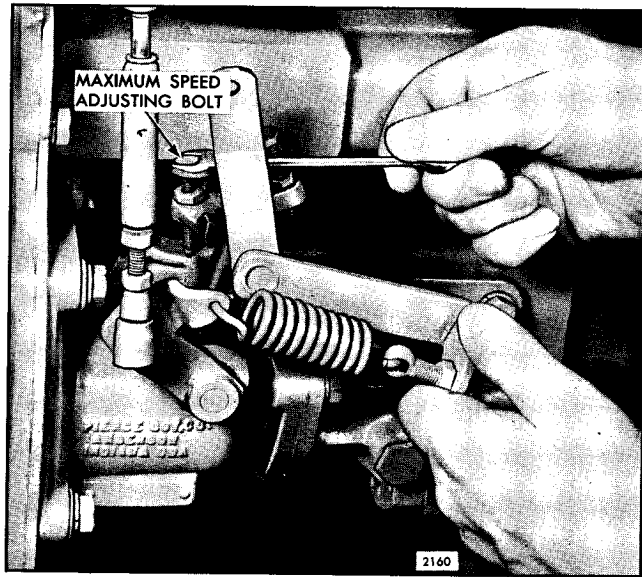

Fig. 5 - Adjusting Maximum Speed
2. Adjust maximum speed adjusting bolt, Fig. 5, until the desired no-load speed is obtained.